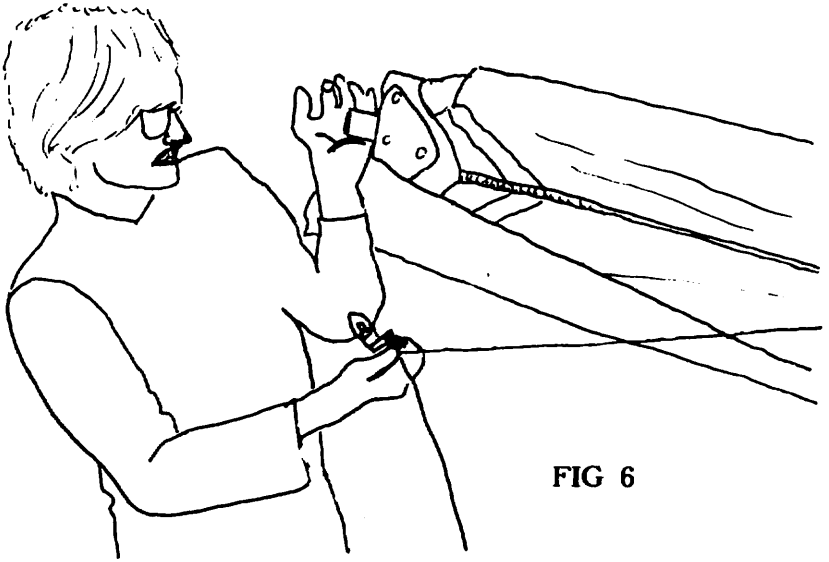

FIG 6
5) Flip the glider upright, holding the front wire to hold control bar forward, and rest the glider on the control bar. The glider should be nose into the wind if the wind is less than 10 mph, or at right angles to the wind if the wind is more than 10 mph.(fig 6 and 7)